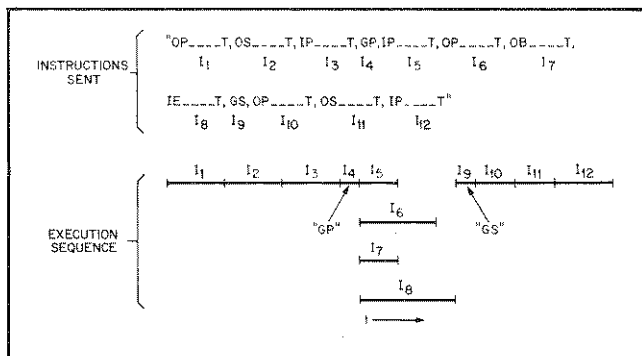

Figure 5-10. GP and GS Mode Control Instructions
5-58 The Go Serial (GS) and Go Parallel (GP) mode instructions place the system in the specified mode for all subsequent instructions. Since the Multiprogrammer "wakes-up" in the serial mode, the GS instruction is only used to restore the Multiprogrammer to the serial mode after a GP instruction has been executed and the user wants to return to the serial mode. In any case, GS and GP instructions will not run until all previous instruction sent by the controller have completed. The only exception to this rule is that a GP given in the parallel mode (with no previous GS) is ignored. Figure 5-10 illustrates how these instructions can be used to change from one processing mode to another.